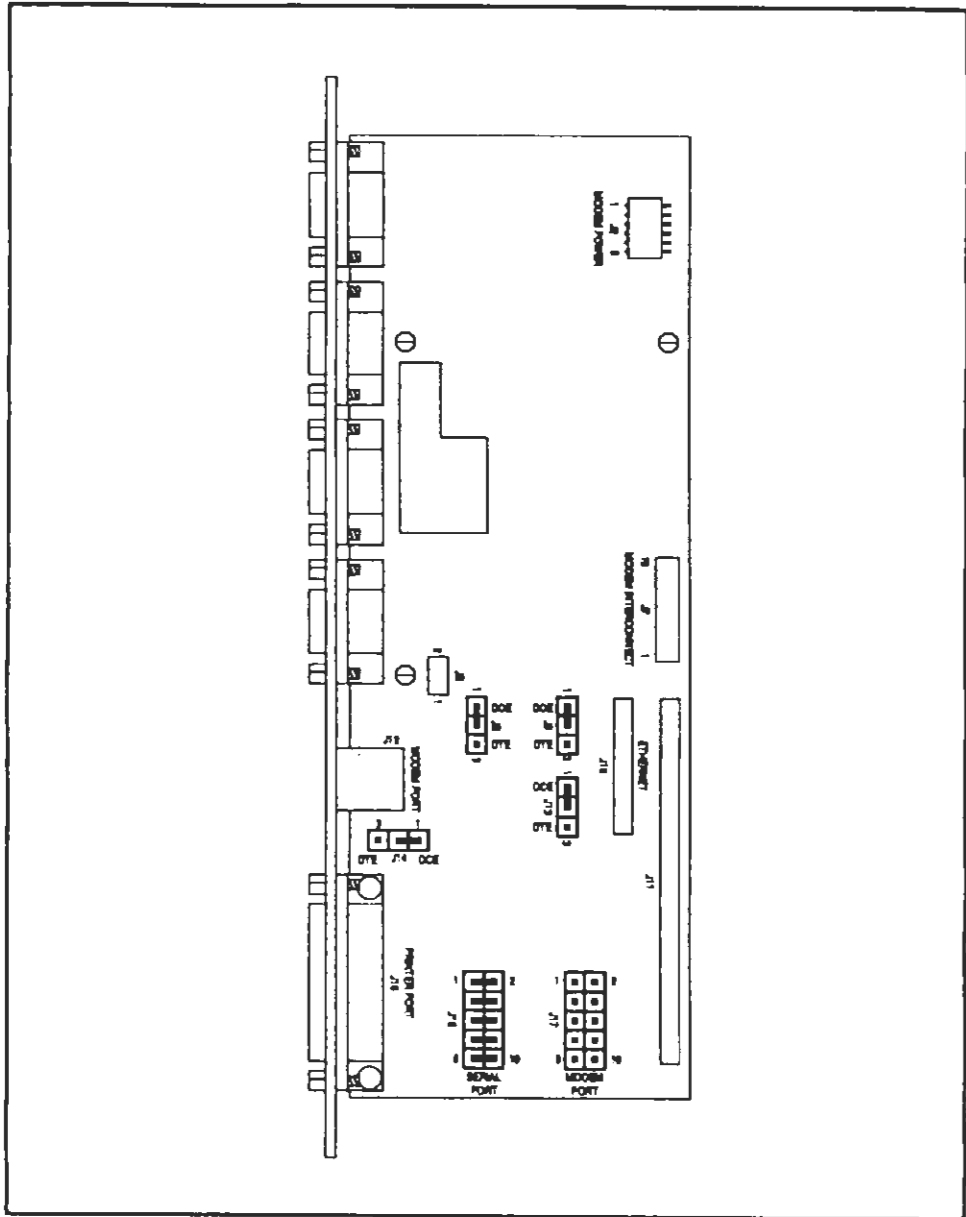

Figure 5. MVME712A
3. Connect the loose end of the Ethernet cable to the MVME712A connector J10. See Figure 5.
2. Connect the loose end of the Ethernet cable to the MVME712A connector J10. See Figure 5.